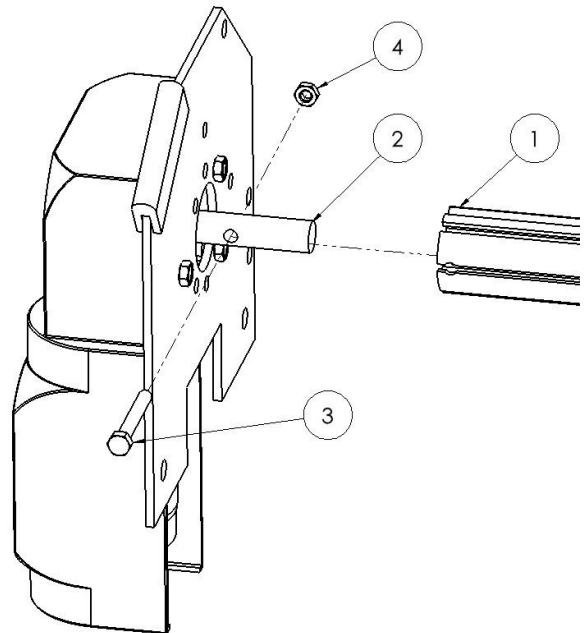

Figure D.5
Slide the heavy duty tarp axle (1) over the motor shaft (2) and secure it with a 5/16" x 2-1/2" hex bolt (3) and a 5/16" hex nut (4). (Figure D.5)